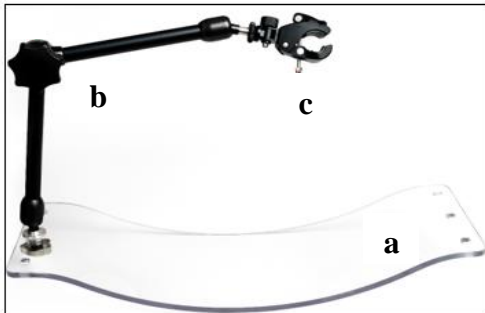

Figure 1: Illustration of the Holder device - base (a) and arm (b)+(c)
- Open the locking knob and locate the adjustable arm, which can be moved in all directions, in a position that allows the patient to lie comfortably on the holder base (Fig. 1)
- Locate the adjustable arm over the patient in the treating area and turn the locking knob (single-knob movement system) (Fig. 1).
- Adjust the clamp screw to the hose size and lock over the hose in a distance of about 20cm/8" from the handle (Fig. 1 and 3)
- Lock the clamp on the hose tube to secure fixation (Fig. 1 and 3).